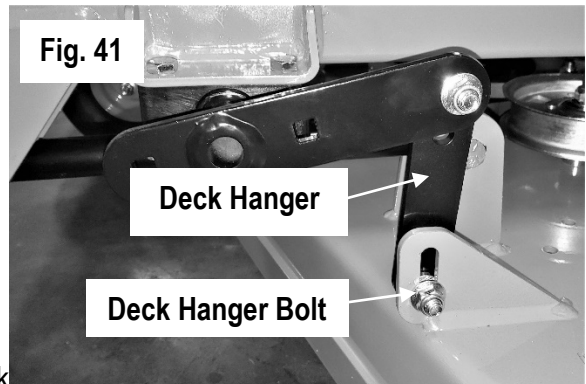

Fig. 41
4. Using a pair of 9/16" wrenches, loosen all deck hanger bolts on the top of the deck. These are the lower bolts in the slots of the deck as shown in Fig. 41. Do not loosen the upper bolts that attach the deck hangers to the actuator lift bars.